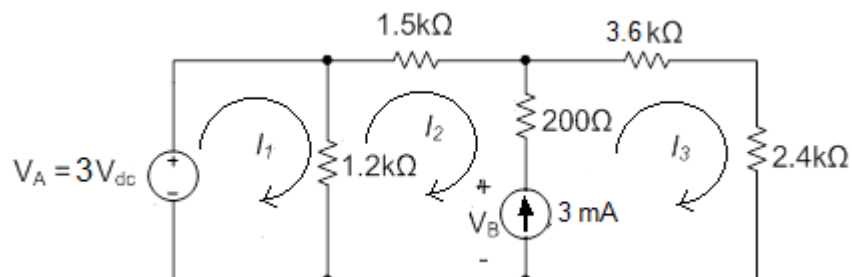

Figure 6-2: Supermesh circuit
- Copy Figure 6-2 in your lab book.
- Simulate the circuit in Figure 6-2 in NI Multisim and use the multimeter to find the mesh-currents and node voltage, V_B . Also use the wattmeter to find the power associated with each of the independent sources. Organize the results of your calculations and simulation in a table for comparison.
2.2.1 Build the circuit of Figure 6-2. Use the 25 V DC power supply to create the 3mA source by setting the voltage and current limits appropriately. Measure each of the three mesh currents and quantitatively compare your measurements to the predicted values. Since a mesh-current is a current that exists only in the perimeter of a mesh you need to set the ammeter in series with an outside branch of the circuit.
2.3 Dummy Resistors In the circuit in Figure 6-2, there are two “dummy resistors”. A “dummy element is an element that when removed has no effect on the predicted behavior of the circuit. Remove the 1.2k Ω dummy resistor, in parallel with the 3V voltage source, and replace the 200 Ω dummy resistor, in series with the 3mA current source, with a wire. Repeat your measurements of the voltage V_B and mesh currents I_2 and I_3 .
2.2.3 Measure the power associated with the independent sources in Figure 6-2 both before and after the dummy elements have been removed. Analyze your results and explain the difference between the measurements of voltage, current, and power with and without the ‘dummy elements’. How can you recognize a dummy resistor in a circuit schematic?
- Circuit of Figure 6-2 with all components properly labeled
- Circuit of Figure 6-2 with 20k Ω resistor removed and 150 Ω resistor replaced with a wire with all components properly labeled